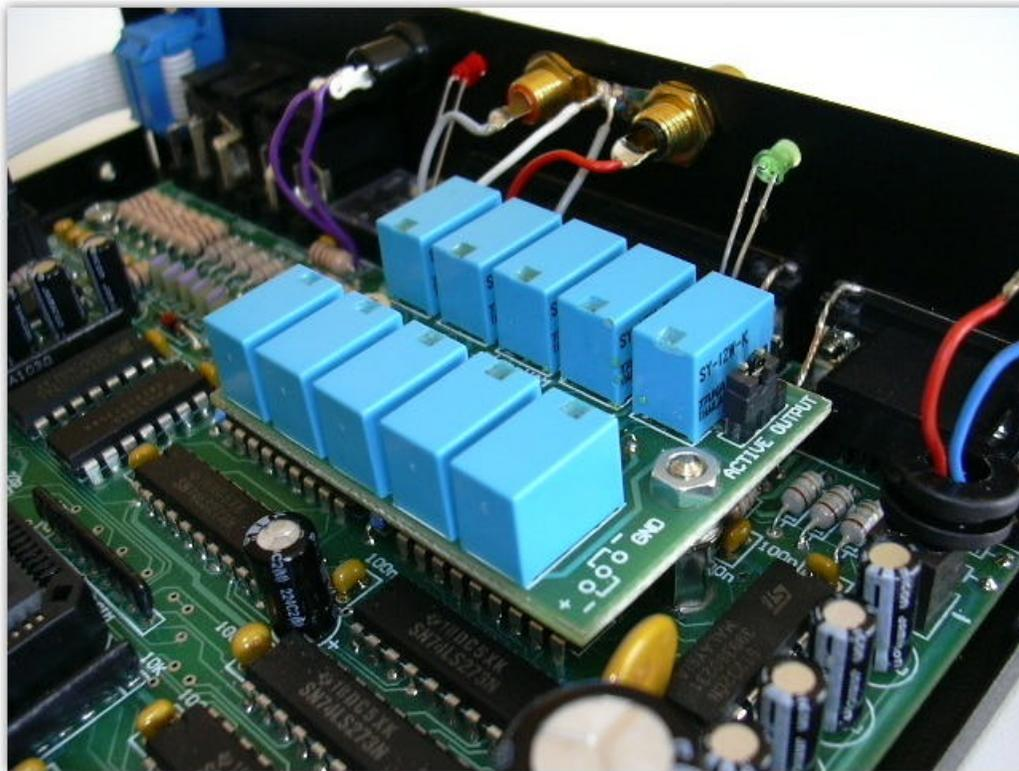

fig. 1
4. plug on the RELAY BOARD onto the header in the position shown on the fig1.